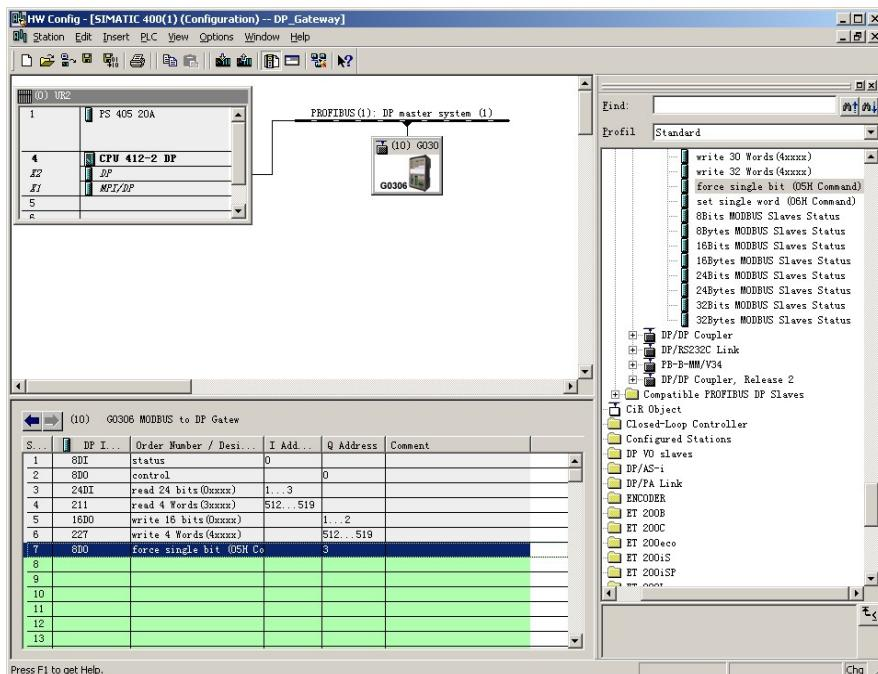

Figure 28 Add "force single bit (05H Command)" module
a) Add "force single bit (05H Command)" module, as shown in Figure 28: